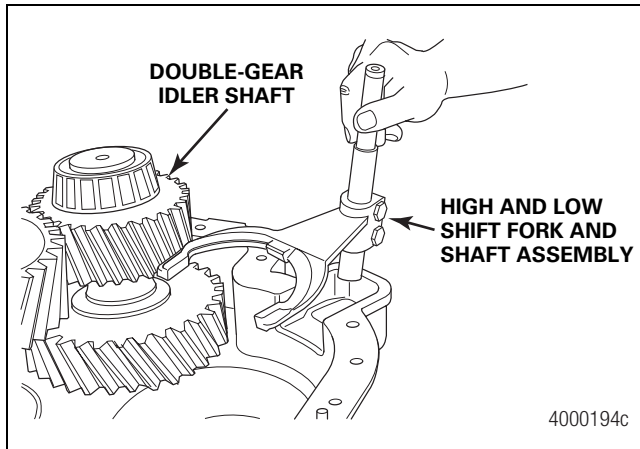

Figure 4.7
8. Remove the high and low shift fork, shift shaft and clutch collar from the front case. Figure 4.7.